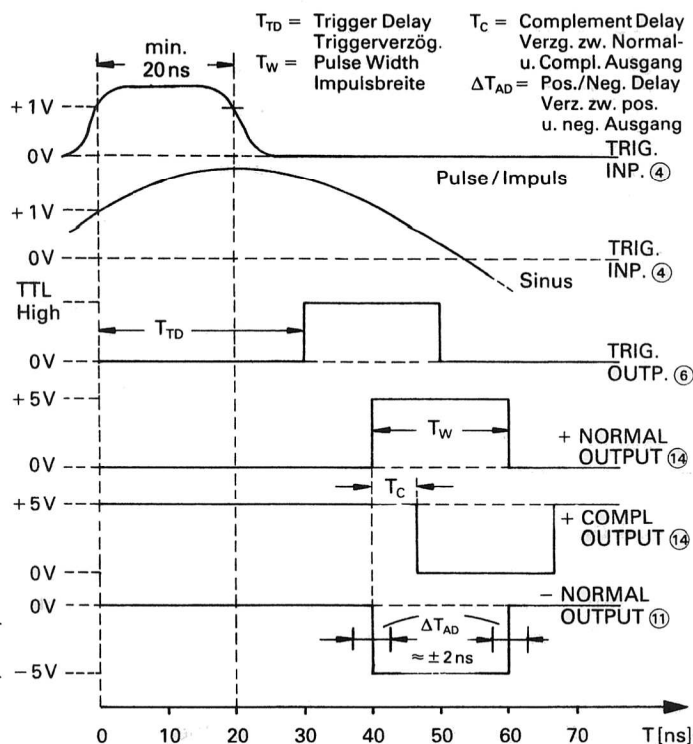

Fig 3 Output signals during external triggering
For circuit design reasons, normal and inverted pulses are offset against each other by a fixed time period of less than 10 ns (see fig. 3).
If the FREQUENCY switch ② is set to MAN or EXT position, the internal pulse rate generator is switched off. In this case a signal applied to trigger input ④ determines the pulse repetition frequency of the output signals. As in normal operation, the pulse duration is adjusted with ⑨ and ⑧. However, the generator is no longer in symmetrical operating condition. The output signals are triggered with the rising, positive pulse edge. The trigger signal can consist of an AC voltage of  $> 1V_p$  or of a rectangular voltage with an amplitude of  $> +1V$ . The input is TTL-compatible with "1" fan-in. The maximum input voltage can be  $\pm 30V$ . The minimum pulse duration should not be less than 20 ns. The trigger delay from trigger input to trigger output is about 20 ns (see fig. 3).